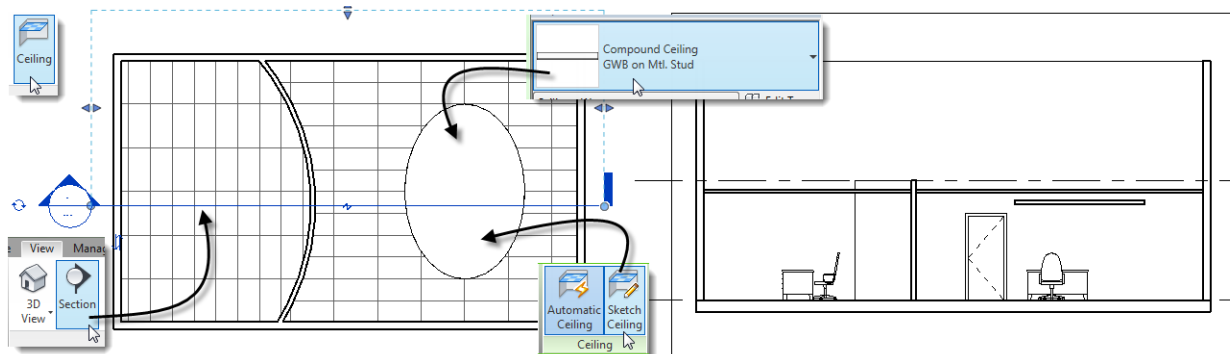

FIGURE 5 – ADD A SKETCHED CEILING
18. Right-click and choose: Go To View (see Figure 5).